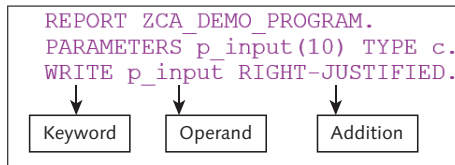

Figure 4.2 ABAP Statement
- ▶ An ABAP statement consists of operands, operators, or additions to keywords (see Figure 4.2). The first word of an ABAP statement is an ABAP keyword, the remaining can be operands, operators, or additions. *Operands* are the data objects, data types, procedures, and so on.
In Figure 4.2, the program shown consists of three ABAP statements written across three lines. The first word in each of these statements (REPORT, PARAMETERS,
You can write multiple statements on one line or one statement can extend over multiple lines. Therefore, if you wish, you can rewrite the code in Figure 4.2 as shown: